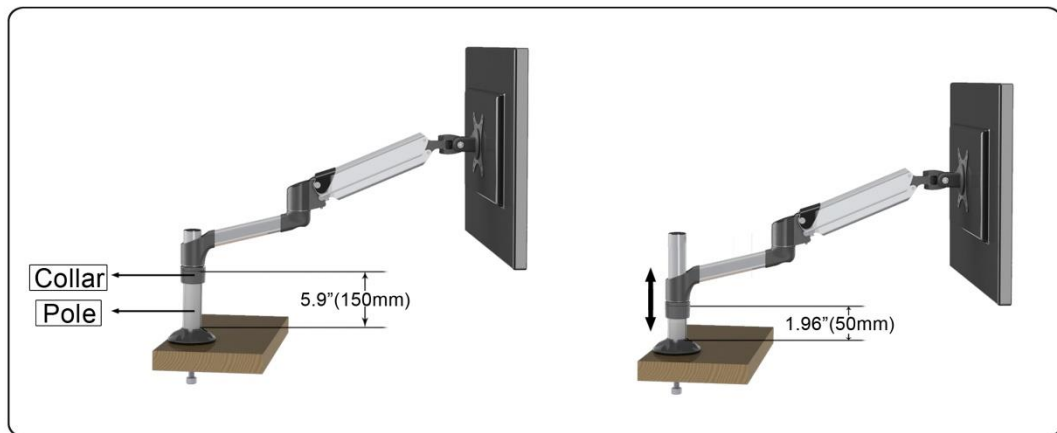

Figure 5-4
4. To adjust the height, remove the gas spring arm from the mounting pole. Loosen the collar on the mounting pole and adjust to your desired height. Then proceed to reattach the gas spring arm. (See Figure 5-4).